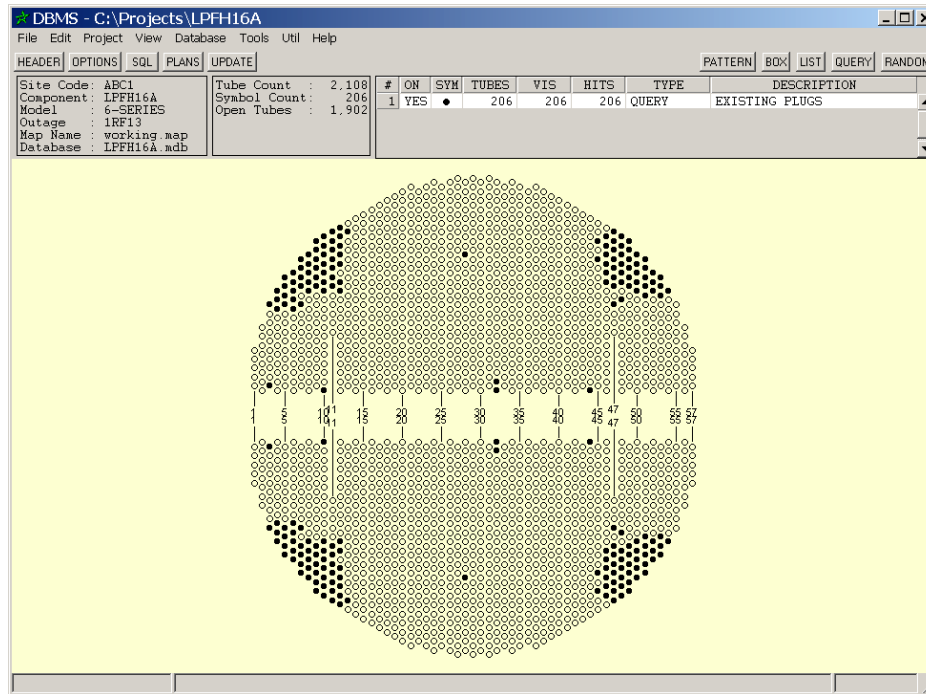

Figure 16-2. Results of a Query Plotted on a Tubesheet Map
- STEP 8:** Click **OK**. As shown in Figure 16-2, an entry should appear in the legend in the upper right area of the **DBMS** window. The entry should show **206** in the **Tubes** column.
OK, so now you've opened, ran (*executed*), and plotted your first query. As shown in Figure 16-2, let's change the symbol to a filled black circle as follows: